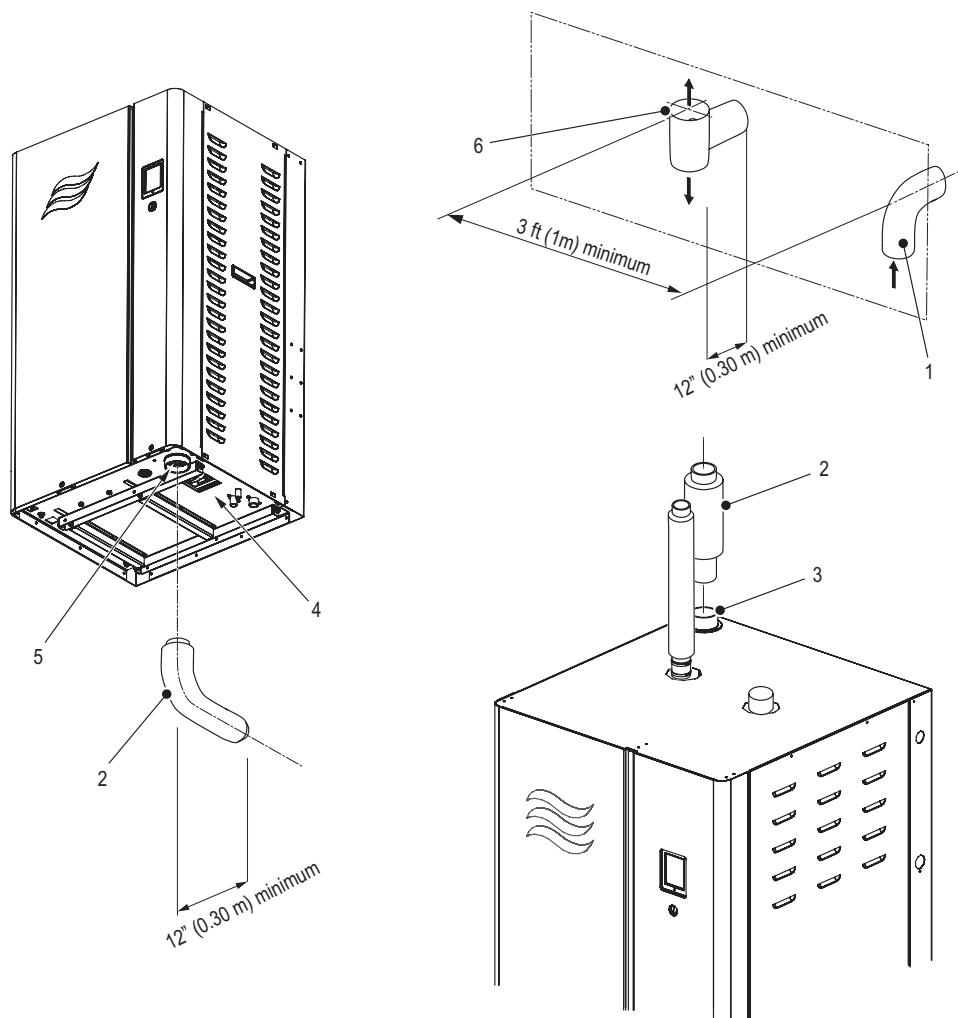

Figure 19: Nortec GS Series Sealed Combustion Connection
Figure 19 shows the sealed combustion connection for the compact and full-size Nortec GS humidifiers.
- An intake (elbow) terminal must be installed on the outside termination of the air intake vent, with the elbow facing down – refer to Figure 19 on page 48. The location and spacing between the air intake terminal and exhaust vent terminal must comply with all local and national regulations, with at least a minimum spacing of 3 ft (1 m) between them.